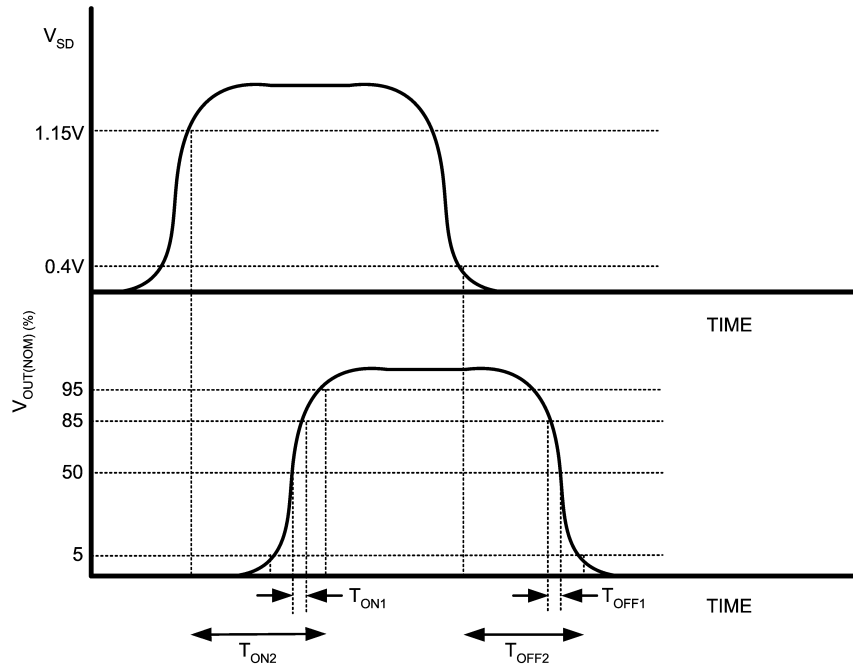

Figure 2. T_{on}/T_{off} Timing Diagram
(1) All limits are guaranteed. All electrical characteristics having room-temperature limits are tested during production at $T_J = 25^\circ\text{C}$ or correlated using Statistical Quality Control methods. Operation over the temperature specification is guaranteed by correlating the electrical characteristics to process and temperature variations and applying statistical process control.
(2) The device maintains the regulated output voltage without the load.
(3) This electrical specification is guaranteed by design.
(4) Short circuit current is measured on the input supply line at the point when the short circuit condition reduces the output voltage to 95% of its nominal value.
(5) Time for V_{OUT} to rise from 50 to 85% of $V_{OUT(nom)}$. (Figure 2)
(6) Time from $V_{SD} = 1.15V$ to $V_{OUT} = 95\%(V_{OUT(nom)})$. (Figure 2)
(7) Time for V_{OUT} to fall from 85 to 50% of $V_{OUT(nom)}$. (Figure 2)
(8) Time from $V_{SD} = 0.4V$ to $V_{OUT} = 5\%(V_{OUT(nom)})$. (Figure 2)